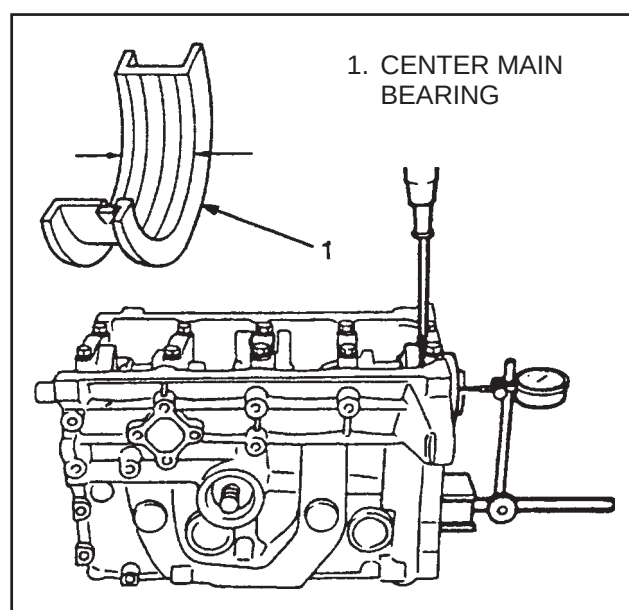

FIGURE 28. MEASURE THE CRANKSHAFT CLEARANCE
7. Before removing the crankshaft, measure the clearance between the crankshaft and the flange of the center main bearing. See FIGURE 28. Push the crankshaft fully forward before making the measurement. The maximum clearance is 0.30 mm. If the clearance is greater than the specification, replace the center main bearing or the crankshaft.